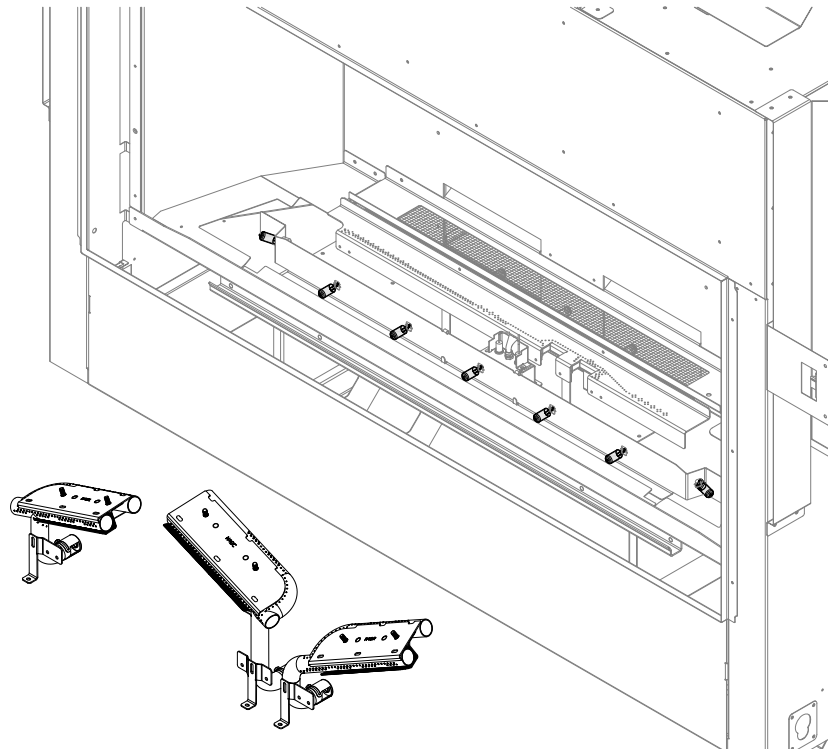

Figure 8.4 - Left, Center, and Right Burners Removal
1. Remove and retain the (6) screws for the left, center, and right burners. Remove burners. See Figure 8.4.